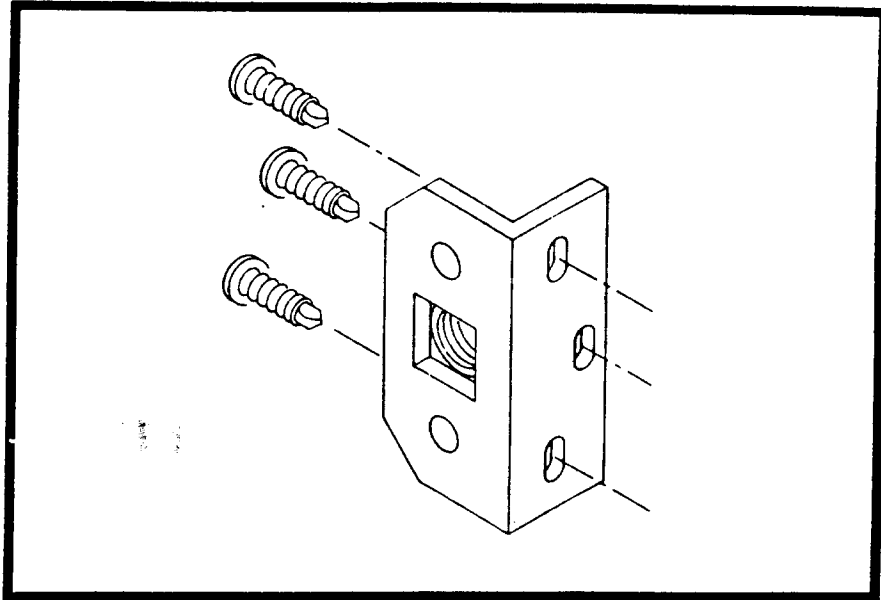

FIGURE 2
- * Check the door alignment to be sure that there is proper alignment and engagement of the T-handle to the door latch. Be sure that the floating nut in the cage is able to engage the bolt of the T-handle. The striking plate can be adjusted up or down by loosening the bolts that mount it to the side of the machine. See figure 2.